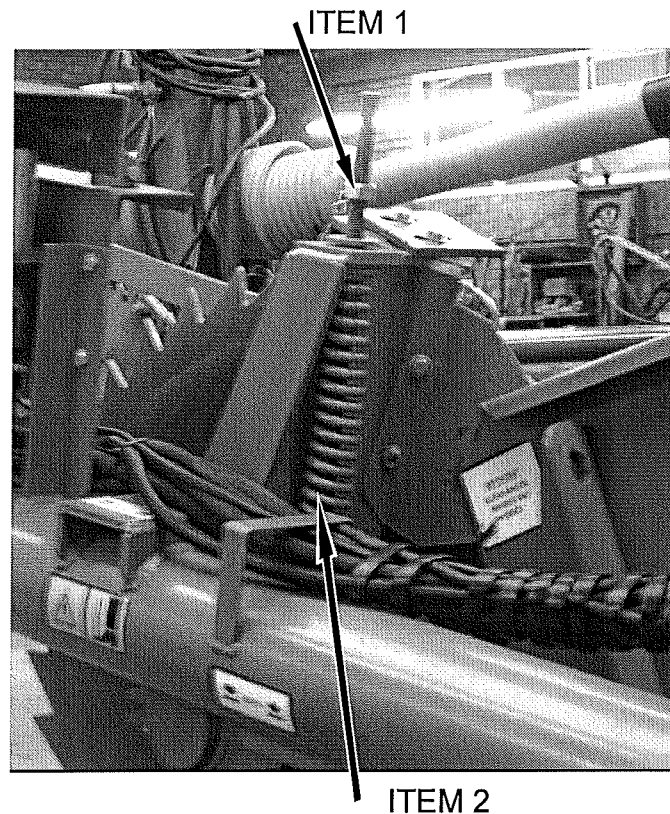

Fig 7.8
Downward stop (fig 7.8 item 1), adjust nut up or down spring rod to limit the downward travel.
To adjust downward pressure, adjust the lock nut at the bottom of the spring (fig 7.8 item 2). Adjusting the nut up will increase the pressure while moving the nut down will decrease the pressure.